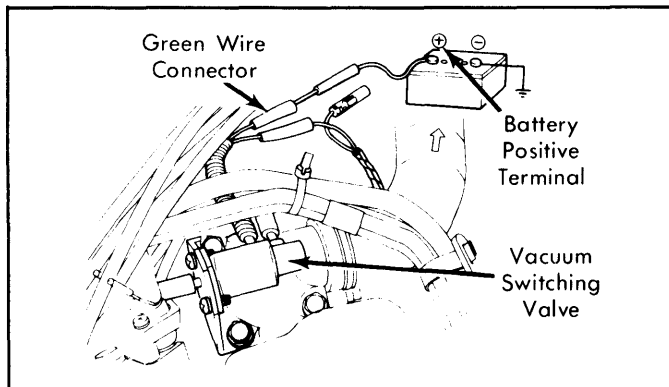

Fig. 8: Testing Vacuum Switching Valve (810 Models)
2) Connect a jumper wire between Green wire connector and the positive terminal of battery. See Fig. 8. Recheck ignition timing.